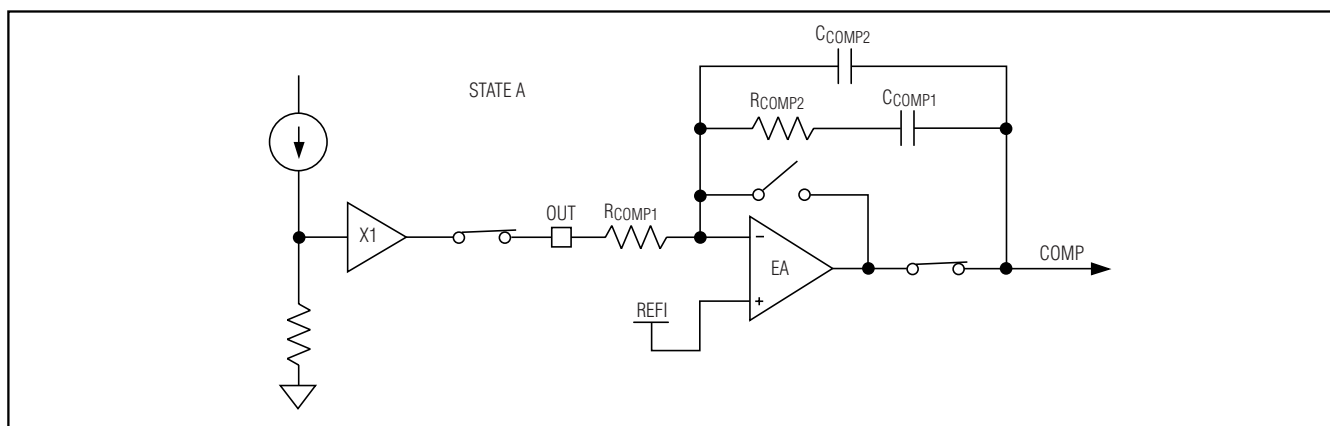
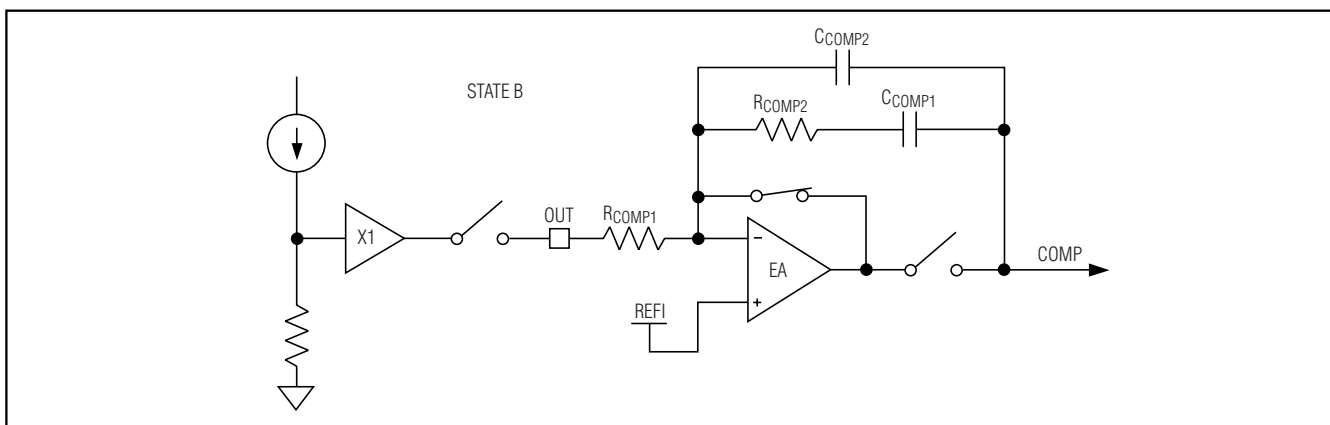
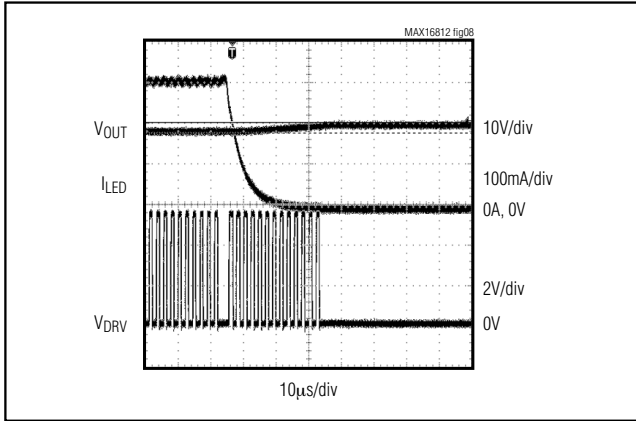

Figure 4. Internal Error Amplifier Connection (Dimming Signal High)
Figure 5. Internal Error Amplifier Connections (Dimming Signal Low)
Figure 8. LED Current, Output Voltage, and DRV Waveforms when DIM Signal Goes Low
The MAX16812 includes a built-in voltage-error amplifier, which can be used to close the feedback loop. The internal LED current-sense output signal is buffered internally and then connected to CS_OUT through an internal switch. CS_OUT is connected to the inverting input (FB) pin of the error amplifier through a resistor. See Figures 4 and 5. The reference voltage for the output current is connected to REFI, the noninverting input of the error amplifier. When the internal dimming signal
is low, COMP is disconnected from the output of the error amplifier and CS_OUT is simultaneously disconnected from the buffered LED current-sense output signal (Figure 5). When the internal dimming signal is high, the output of the op amp is connected to COMP and CS_OUT is connected to the buffered LED current-sense signal at the same time (Figure 4). This enables the compensation capacitor to hold the charge when the DIM signal has turned off the internal switching MOSFET gate drive. To maintain the charge on the compensation capacitors C_{COMP1} and C_{COMP2} , the capacitors should be of the low-leakage ceramic type.
PWM dimming can also be achieved by connecting TGRM to a DC voltage less than V_{REF} and applying the PWM signal at DIM. The moment the internal dimming signal goes low, gate drive DRV to the internal switching MOSFET is turned off. The error amplifier goes to state B (see the *Internal Error Amplifier* section and Figures 4 and 5). The peak current in the inductor prior to disabling DRV is I_{LX} . Gate drive DGT to the external dimming MOSFET is held high. Then after a switchover period, gate voltage V_{DGT} on the external dimming MOSFET is linearly controlled to reduce the LED current to 0. The fall time of the LED current is controlled by an internal timing circuit to $5\mu s$ for the MAX16812. During this period, the gate (DRV) to the internal switching MOSFET is enabled. After the fall time, the gate drive to the external dimming MOSFET is turned off and the gate drive to the internal switching MOSFET is still held high after the switchover period. The peak current in the inductor is controlled at I_{LX} . Then after a time period of $20\mu s$, the gate drive is disabled. The scope shots in Figures 8–11 show the dimming waveforms.
When the DIM signal goes high, the LED current is gradually increased to the programmed value. The rise time of the LED current is controlled to 5µs for the MAX16812 by controlling the voltage on DGT. After the rise time, an internal sensing circuit monitors the voltage across the drain to the source of the external dimming MOSFET. The LED current is now controlled at the programmed value by a linear current regulating circuit. Once the voltage across the drain to source of the dimming MOSFET drops below 0.5V, the reference for the linear current regulating circuit is increased to 1.1 times the programmed value. The gate drive (DRV) to the internal switching MOSFET is enabled and the error amplifier is returned to state A (see the *Internal Error Amplifier* section and Figures 4 and 5).